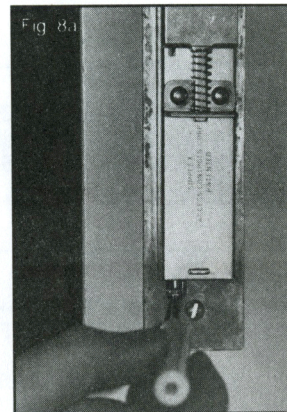

Fig. 8a
3. Put a small screwdriver in the notch in the back plate of the lock, and push the slide into the lock as far as it will go. (See fig. 8a) Remove screwdriver.